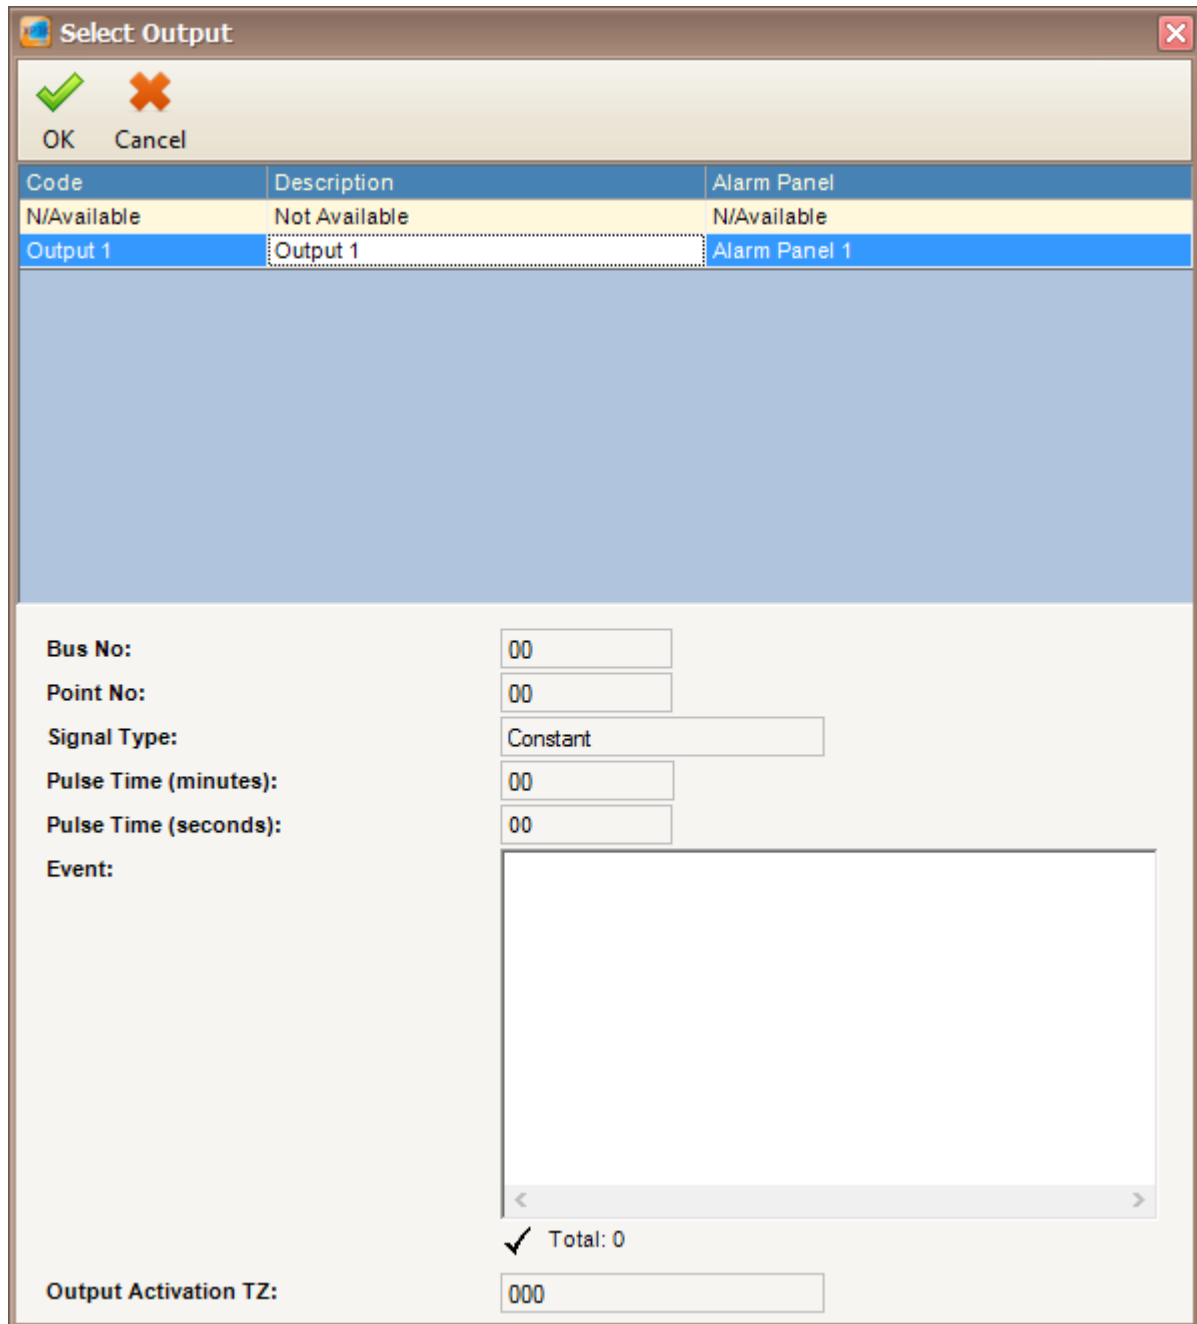

Figure 261 - Select Output
3. Select the output by clicking on "Select Output Here" link. Select Output window will be shown (Refer **Figure 261**).